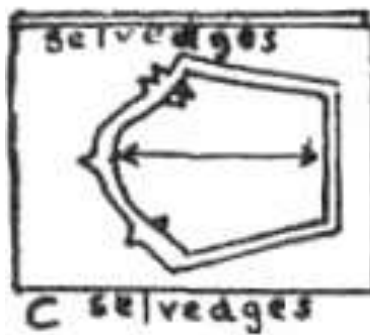

Fig.12.1c
c) Crosswise centre fold (Fig.12.1c): This is suitable for materials that are too narrow to accommodate the width of pattern pieces when folded lengthwise.